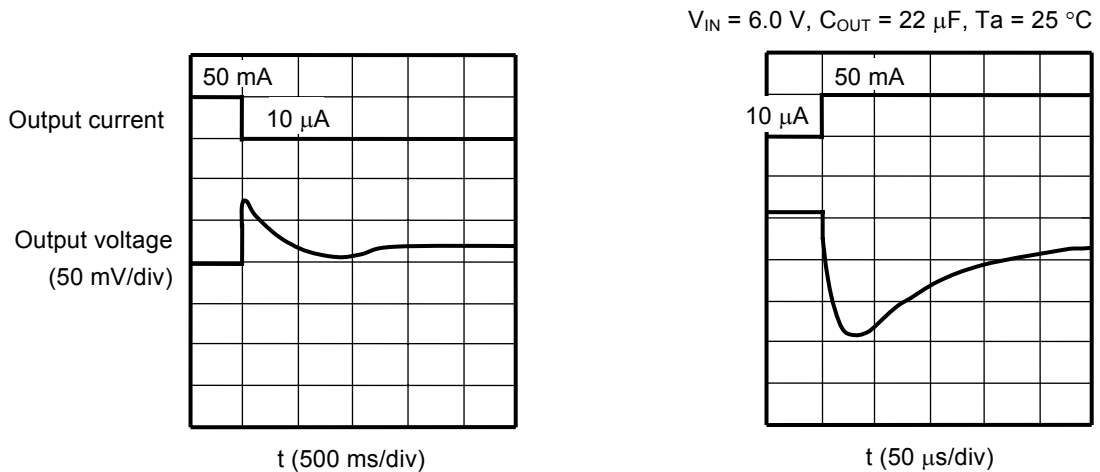

Figure 39 Ringing Waveform due to Load Variation (VOUT Pin)
**Figure 39** shows the ringing waveforms at the VOUT pin and **Figure 40** shows the ringing waveforms at the VRO pin due to the load variation, respectively.